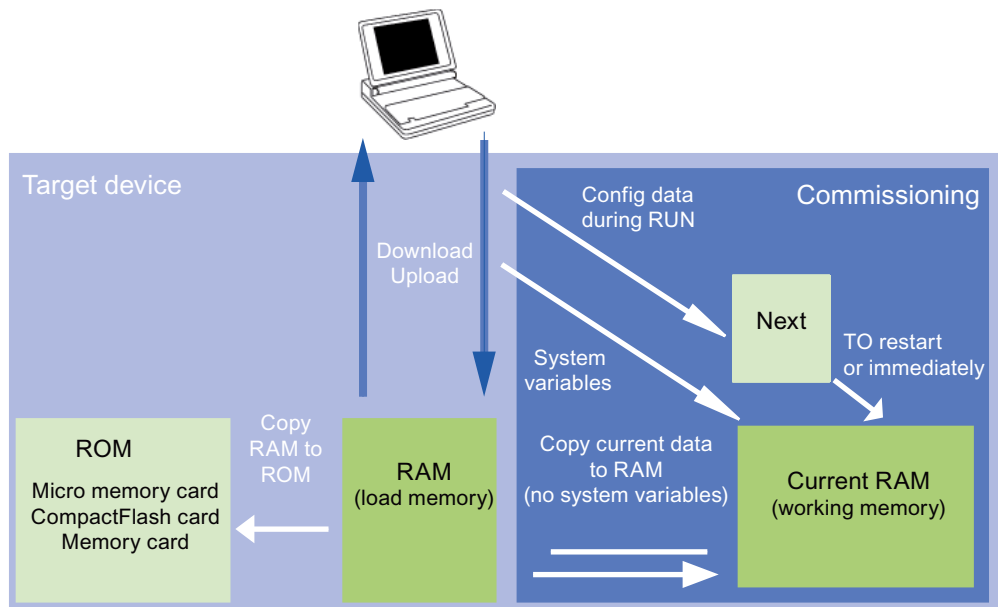

Figure 5-3 Configuration data and system variables in the volatile memory (memory concept, principle)
- Figure 5-3 Configuration data and system variables in the volatile memory (memory concept, principle) (Page 74)